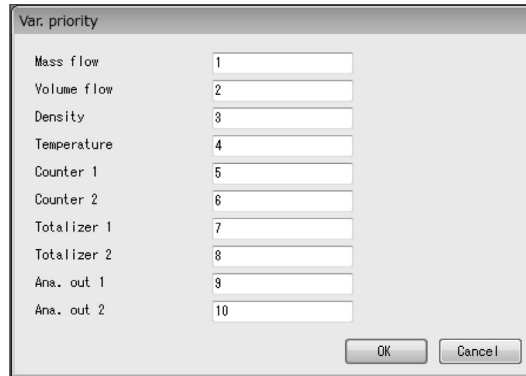

Fig.73
- ① Click the "Setup (S)" menu, and then select and click "Var. priority" from the "LCD" drop-down list.
- ② The following window will be displayed (Fig. 73). Set the order to be used for displaying measurement values on the LCD here.